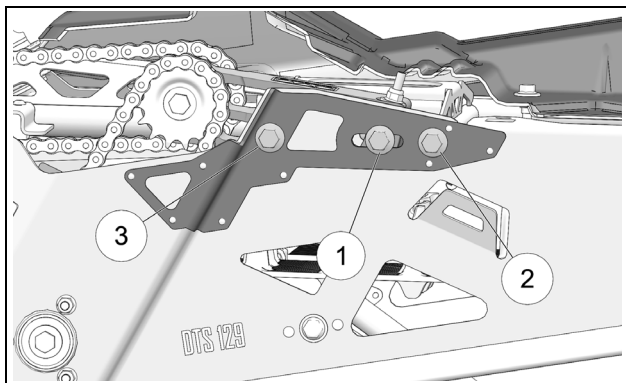

Figure 8
- Re-tighten in sequence chain tensioner mounting bolts (1), (2) and (3) to 90 N-m [67 lb-ft] of torque. See Figure 8.